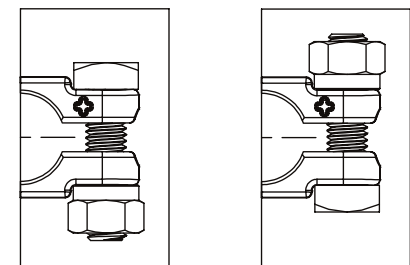

FIGURE 2
3. ATTACH THE BASE ASSEMBLY TO THE POSITIVE BATTERY POST OVER THE COVER. SECURE THE ASSEMBLY BY TIGHTENING THE M8 SHOULD HEX NUT TO  $12 \pm 1$  N·m. M8 NUT AND BOLT CAN BE ASSEMBLED IN LEFT OR RIGHT HAND ORIENTATION FOR BEST ACCESS DURING ASSEMBLY (FIGURE 2)